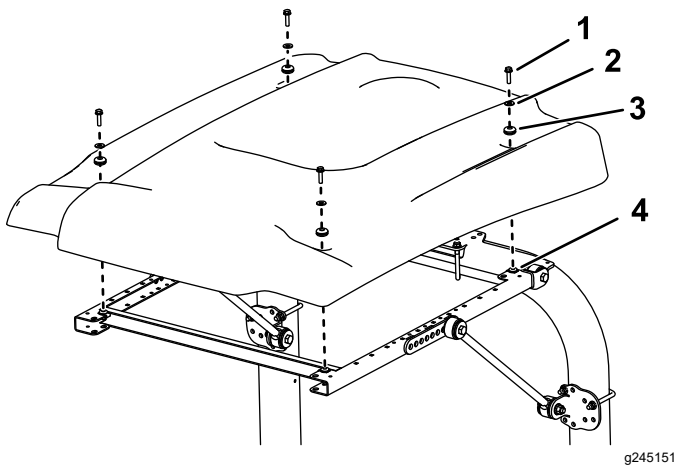

Figure 35
- While aligning the mounting holes, position the sunshade onto the frame as shown in Figure 35.
- Loosely mount each corner of the sunshade to the frame with a flange-head bolt (5/16 x 1-1/4 inches), a small washer, and a grommet (Figure 35).